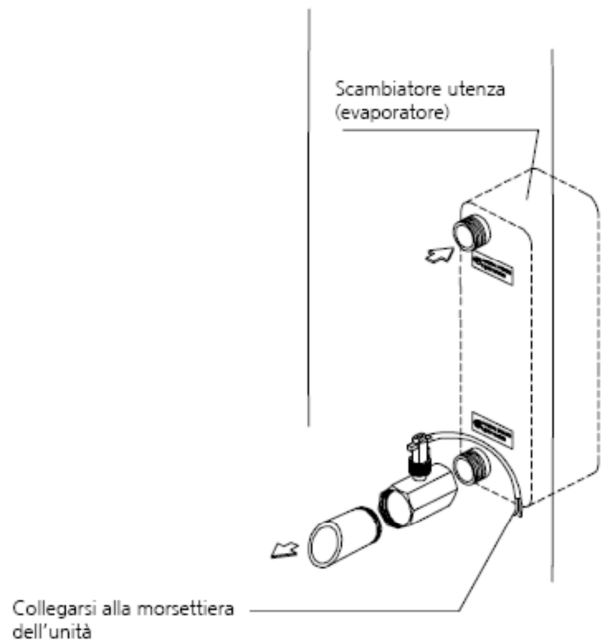

Fig. 4
- Connect the flow meter to the male threaded outlet coupling on the evaporator (fig. 4) bearing this label: